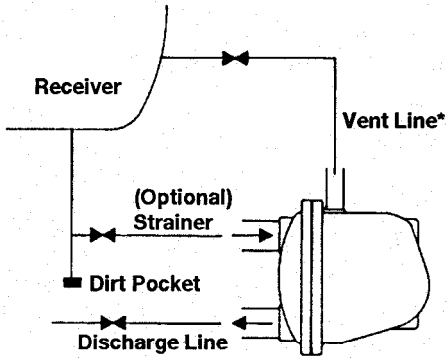

FIGURE 2. "M" and "MS" Liquid Drainer
- C) Liquid Drainer. Install the liquid drainer with its inlet connection below the liquid level in the equipment to be drained. Figure 2 shows recommended piping for a liquid drainer.
- 5) LIQUID DRAINERS must be back-vented to avoid air binding. DO NOT reduce pipe size for the back vent, but use the full 1 -1/2" pipe, connected as shown in Figure 2.